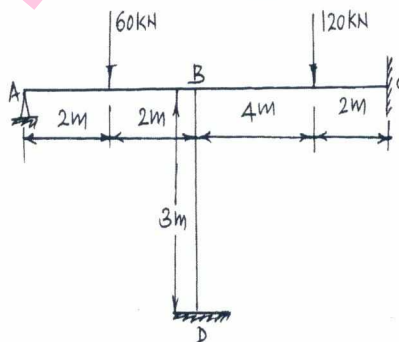

Fig. Q7
- 7 Analyse the frame shown in Fig. Q7 by the matrix stiffness method. Draw the bending moment diagram. (20 Marks)